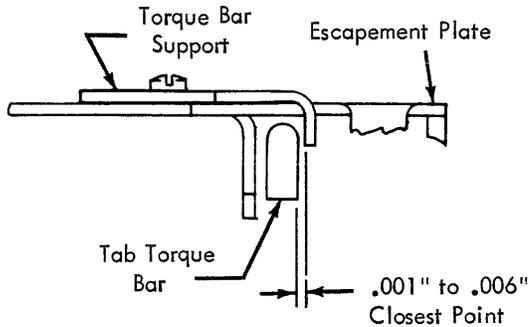

FIGURE 170. Tab Torque Bar Support (Early)
10. Tab Torque Bar Support (Early) (Fig. 170) - With the tab torque bar at rest, position the torque bar support (relative to the escapement plate) to clear the torque bar by .001" to .006".